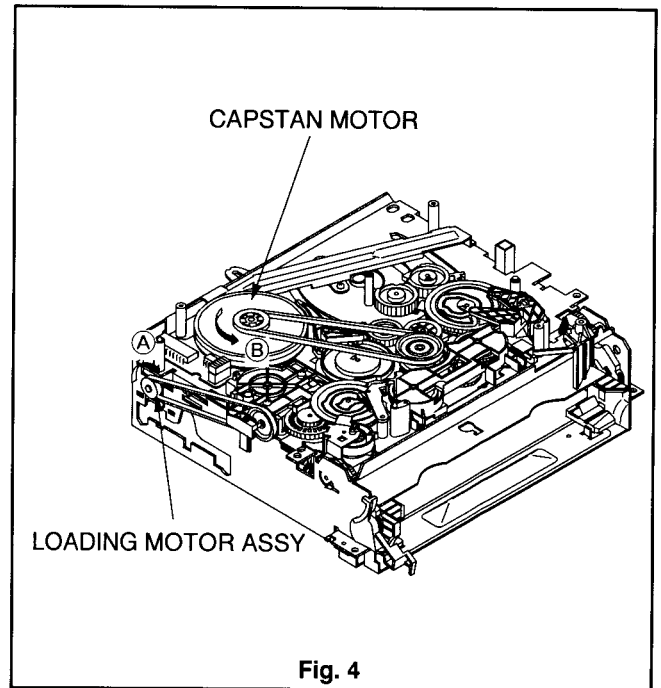

Fig. 4
- 3 If the TAPE GUIDE ASSY (TU) and TAPE GUIDE ASSY (SP) is in a status for loading, turn the LOADING MOTOR ASSY shown in Fig. 4 in the direction shown by arrow (A) and move the TAPE GUIDE ASSY (TU) and TAPE GUIDE ASSY (SP) fully in the unloading direction.
- 4 Turn the CAPSTAN MOTOR shown in Fig. 4 in the direction shown by arrow (B) to wind the tape up within the cassette.
- 5 Turn the LOADING MOTOR ASSY shown in Fig. 4 in the direction shown by arrow (A) to eject the tape.